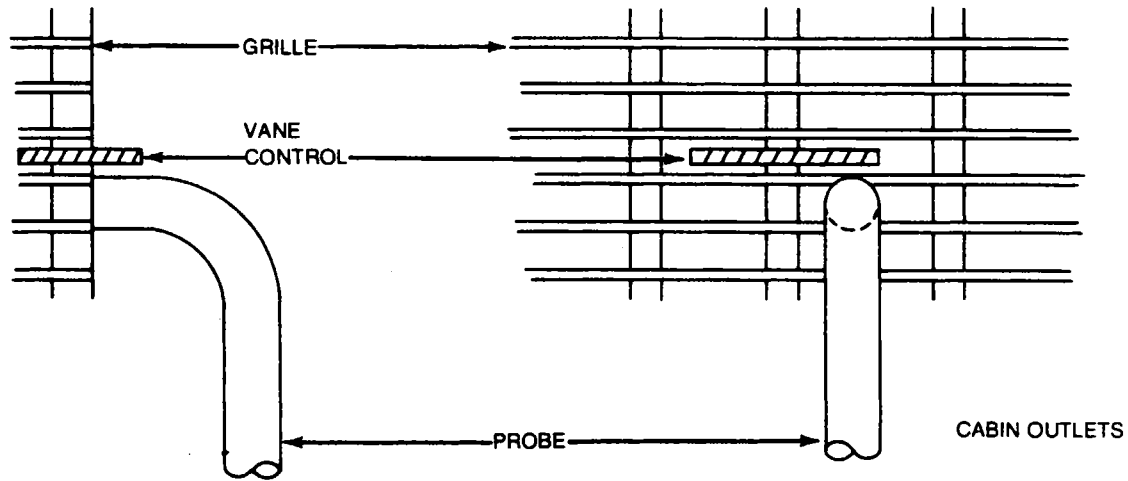

Figure 14-37b. Positioning of Airflow Probe
c. When checking air flows, hold the probe from the flow meter perpendicular to, and in the center of the outlet. (Refer to Figure 14-37b.)